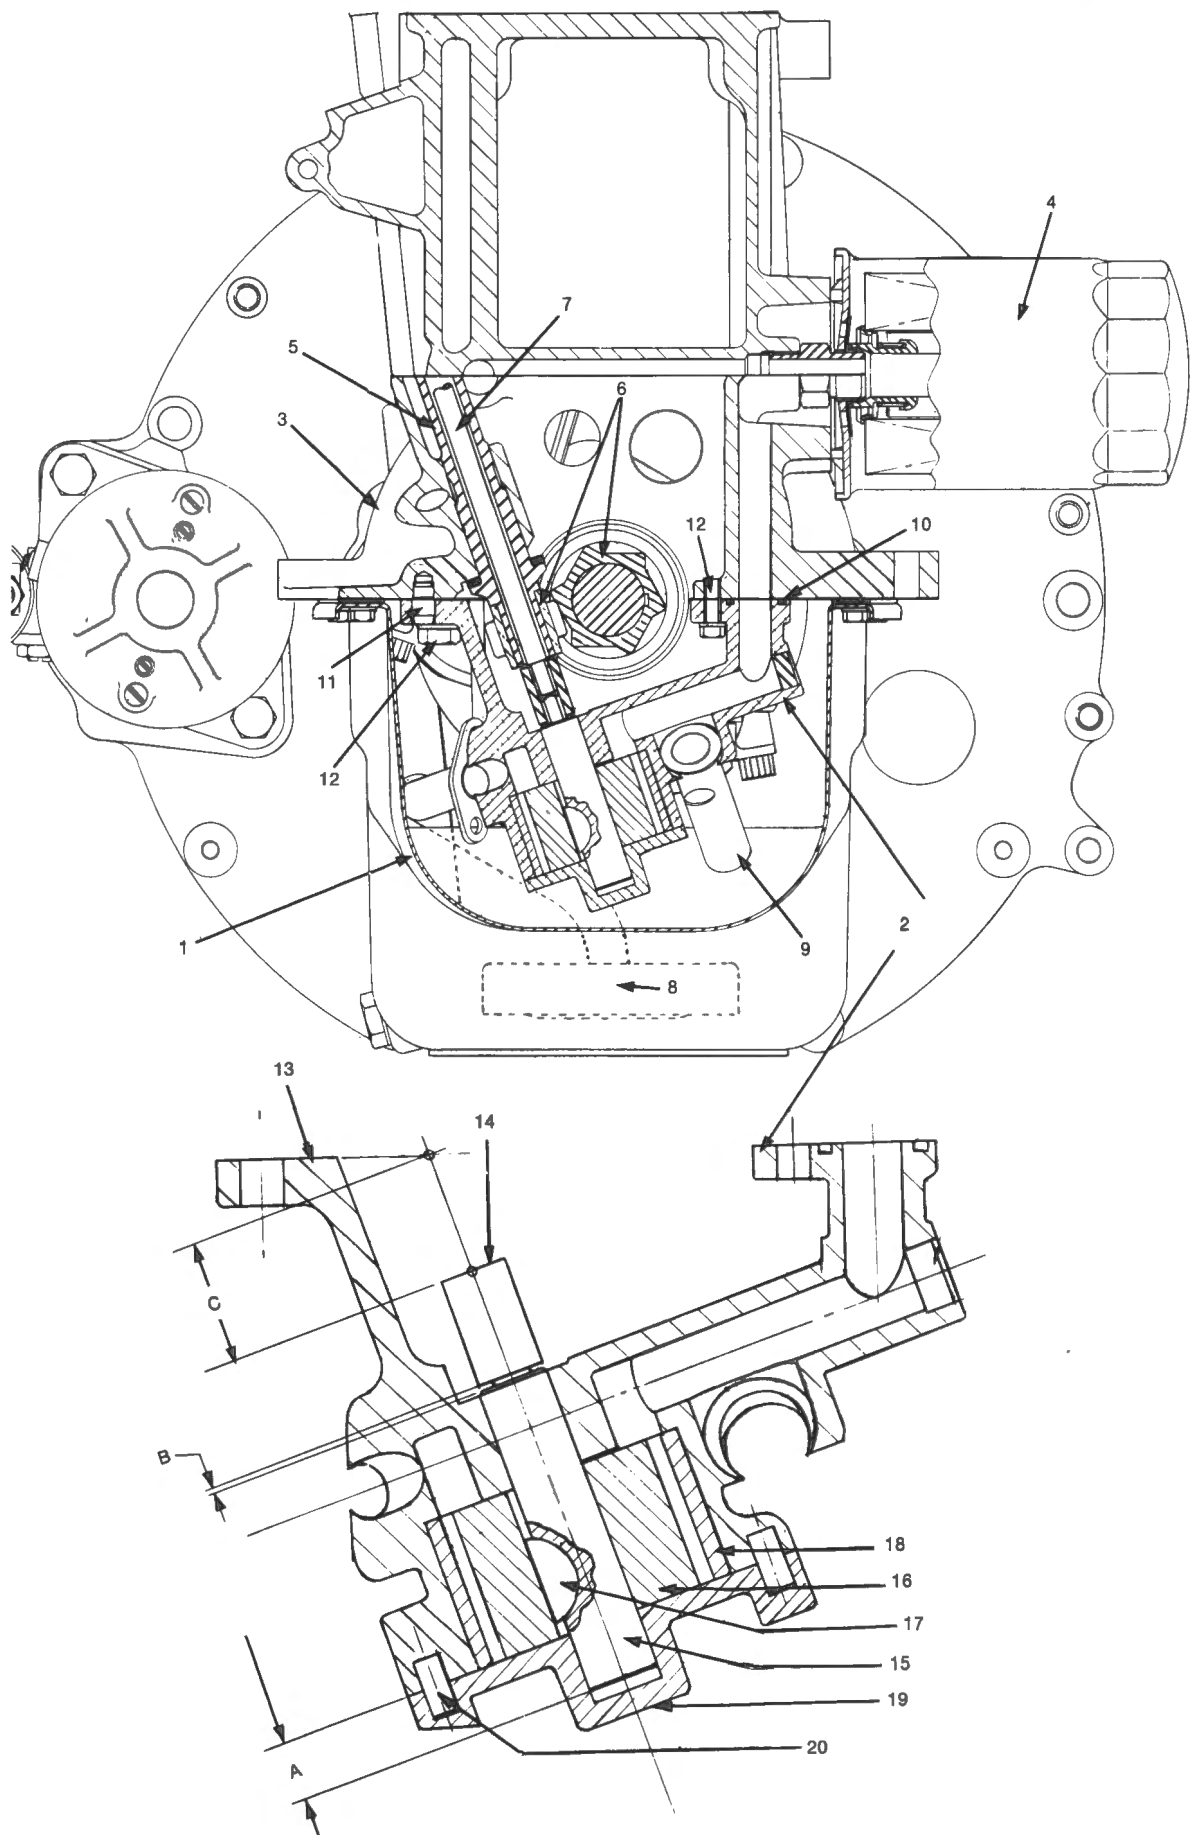

Fig. E-10
- 2 Remove the cover by tapping with a suitable drift on the area adjacent to the dowel bosses, as shown in Fig. E-10.
KEY TO FIG. E-10
NOTE: The chamfer on the shaft at the shoulder should be visible when the rotor assembly is seated in the body. If the chamfer is not visible check the fitted dimension of the rotor and shaft as shown in Fig. E-10.